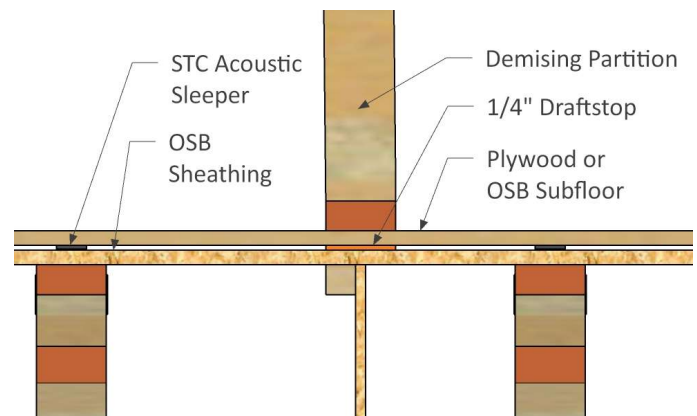

Figure 13: Section with Draftstop Parallel to Structure
- Fig. 13: Typical section detail for non-load-bearing demising partitions parallel to structural members where draftstops are required.